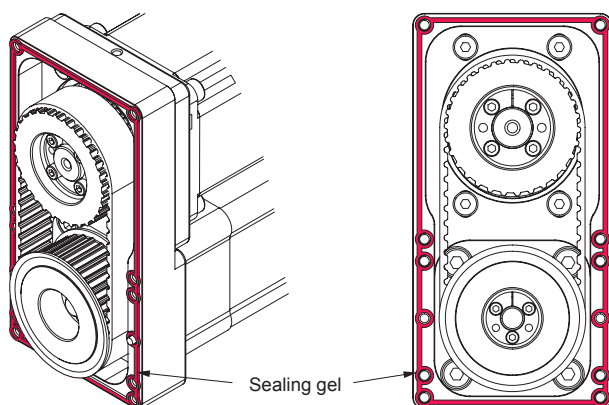

Figure 32: Sealing gel applied on the MSD housing 1.
- Apply the sealing gel **26** to the cleaned housing of the motor side drive **1** as it is presented on the Figure 32 (the gel must be applied continuously in a closed loop on surface that comes into the direct contact with the MSD cap **20**. Sealing gel must be applied also around the holes of the MSD cap screws; it should be noted that surface shape may vary depending on the motor side drive size and type).